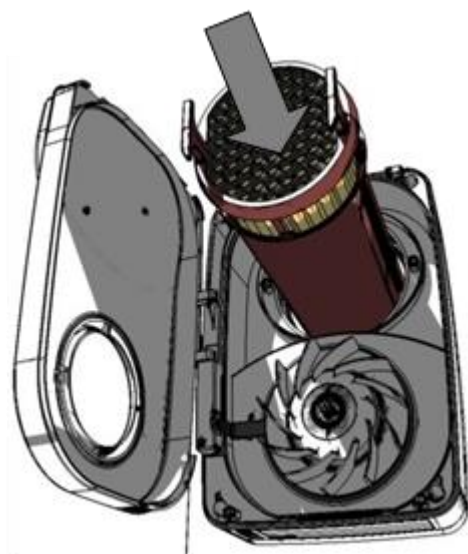
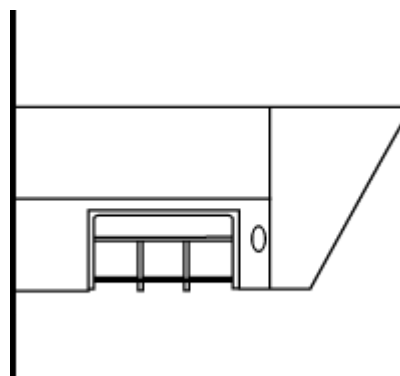

Figure 13
Figure 14
9. Insert the heat exchanger through the chassis and then into the wall hole (Figure 13). Be careful to comply with the orientation of the pipe on the outside (Figure 14).